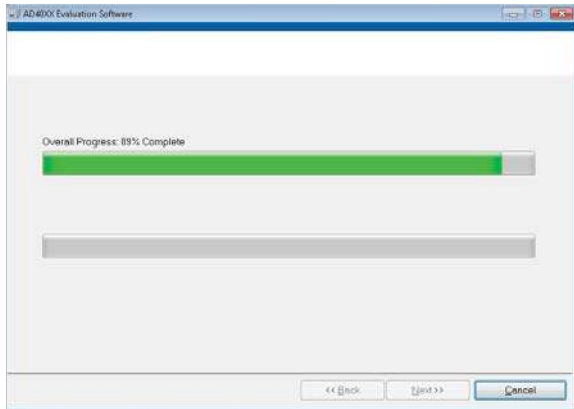

Figure 7. Overall Progress
- A pop-up window opens and displays a bar showing the installation progress, as shown in Figure 7.